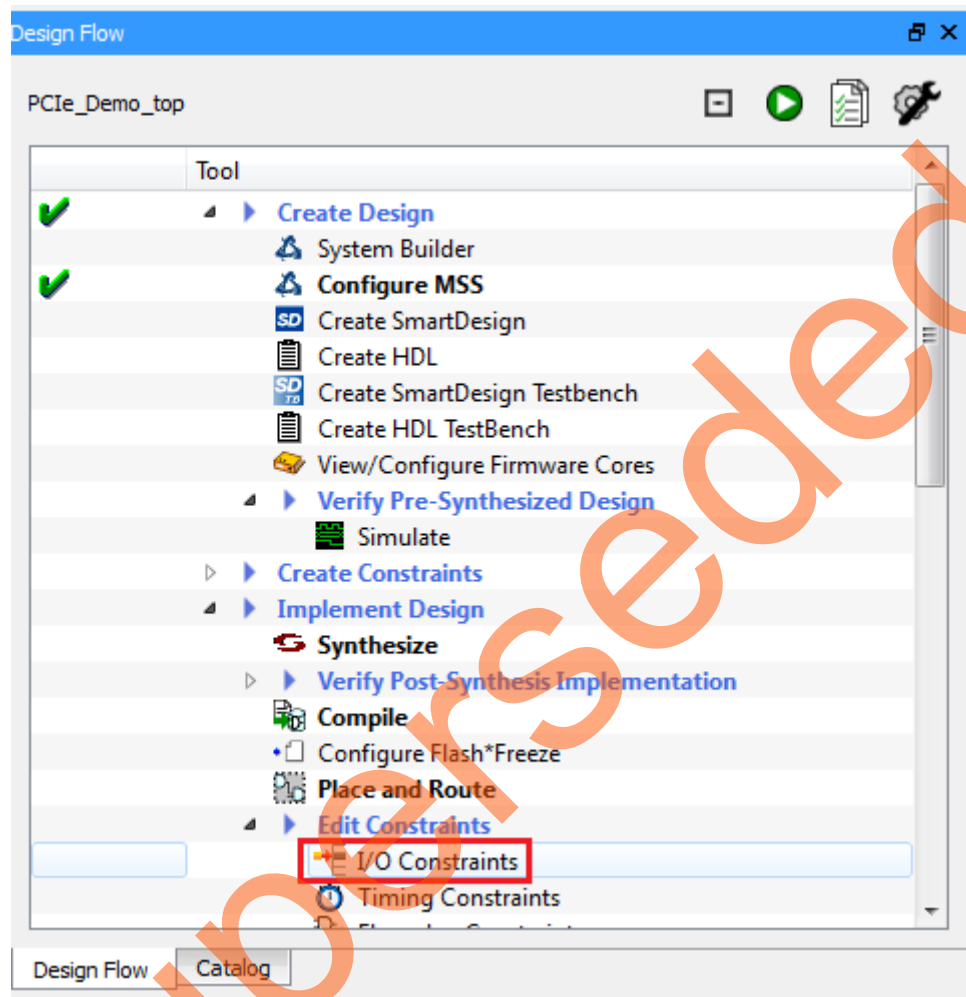

Figure 50 • I/O Constraints
1. Double-click **I/O Constraints** in the **Design Flow** window as shown in Figure 50. The **I/O Editor** window is displayed after completing Synthesize and Compile.